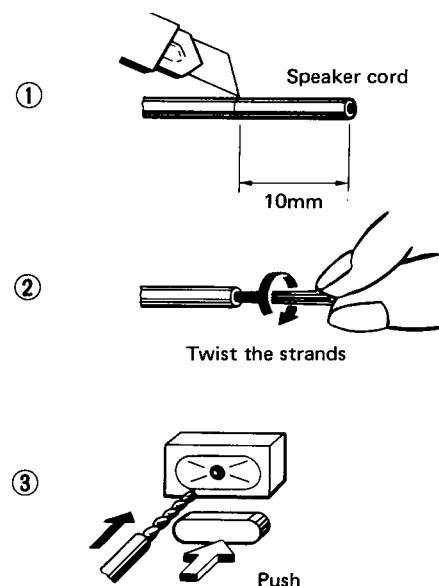

Fig. 2
Processing and connecting the speaker cords (Fig. 2 ① ~ ③)